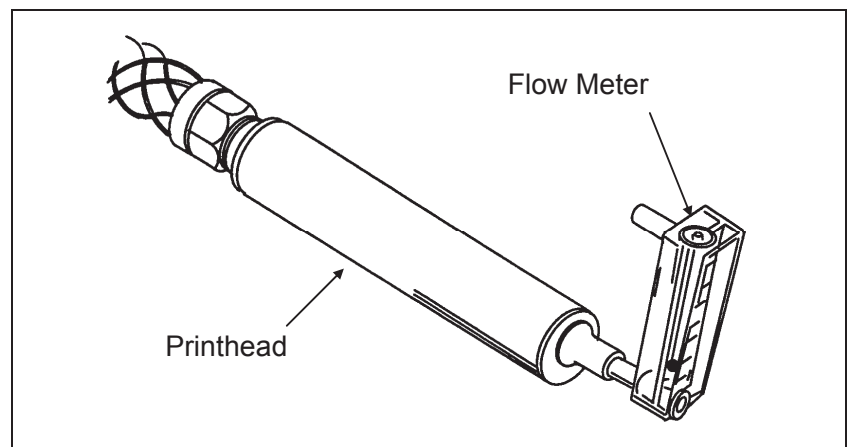

Figure 8-17. Air Flow Meter Attached to the Printhead
1. Hold the flow meter against the printhead faceplate (refer to Figure 8-17).